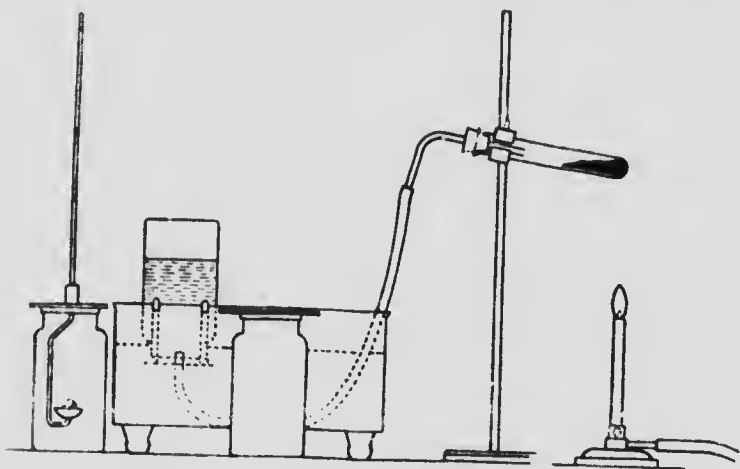

FIG. 26.
**Sketch.**— Fig. 26.
(2) Oxygen can be obtained from substances other than oxides. Fasten a test tube vertically in a clamp; put in 1 gm. of potassium chlorate and heat till it is very evident that a gas is being evolved. Test the gas by inserting a glowing splinter. Stop the heating, and, immediately effervescence ceases, drop in a very little manganese dioxide from the point of a knife-blade. **Be careful that your face is not directly over the tube.**
(3) Mix thoroughly on a piece of paper 6 grms. of potassium chlorate and 4 grms. of manganese dioxide. Place the mixture in a test tube fitted with the elbow, and one-hole cork and delivery tube, as shown in Fig. 26. The pneumatic trough should be filled until the water